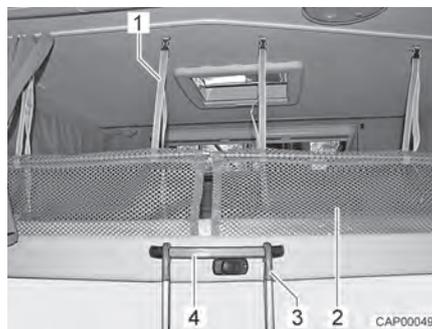

Fig. 77 Access ladder and safety net
- Hook the access ladder (Fig. 77,3) to the pull-down bed by attaching the two hooks to the curved handle (Fig. 77,4).
**Safety net** The safety nets (Fig. 77,2) with the retaining straps are stored under the mattress. Only use the safety nets if persons are already in the pull-down bed.
- Fasten the retaining straps (Fig. 77,1) to the holders on the ceiling.